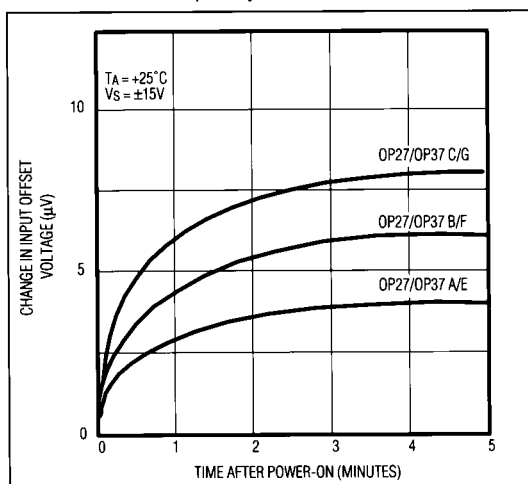

Figure 5. Warm-Up Offset Voltage Drift
1. The device must warm up for at least five minutes. Figure 5 shows how V_{OS} typically increases $4\mu V$ with increases in chip temperature after power-up. In the 10sec measurement interval, temperature-induced effects can exceed $10nV$.